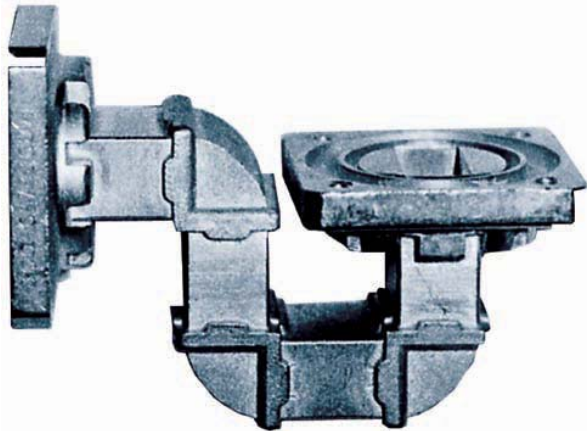

FIGURE 19-3 Furnace-brazed part. Larry Jeffus
- a. Parts can be preassembled and dipped or furnace soldered or brazed in large quantities, Figure 19-3.